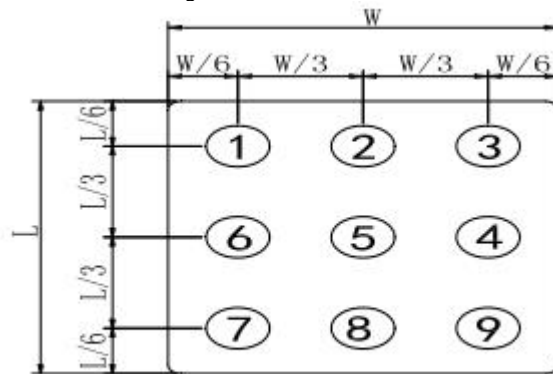

Fig. 2
Active area is divided into 9 measuring areas (Refer Fig. 2). Every measuring point is placed at the center of each measuring area. Luminance Uniformity (U) = Lmin/ Lmax